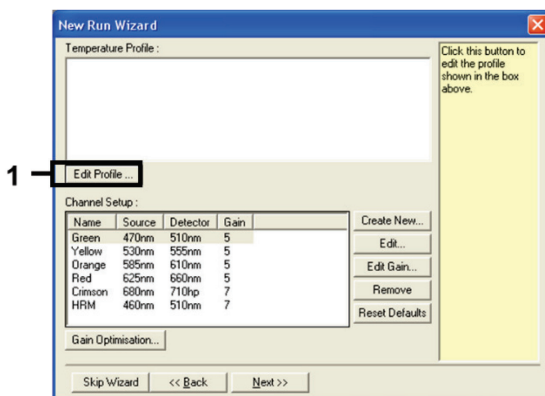

Figure 3. Editing the profile.
5. Click **Edit Profile** in the “New Run Wizard” dialog box (Figure 3) and set the run parameters according to the following steps.